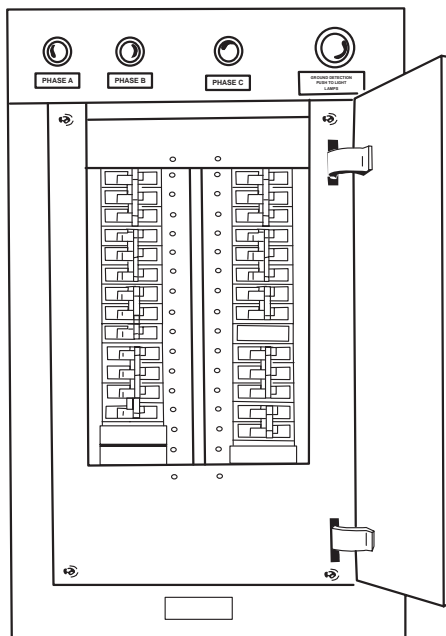

Figure 13. 120V Emergency Load Center Distribution Panel
- m. 120V emergency load center distribution panel (figure 13), located in the emergency diesel generator room.